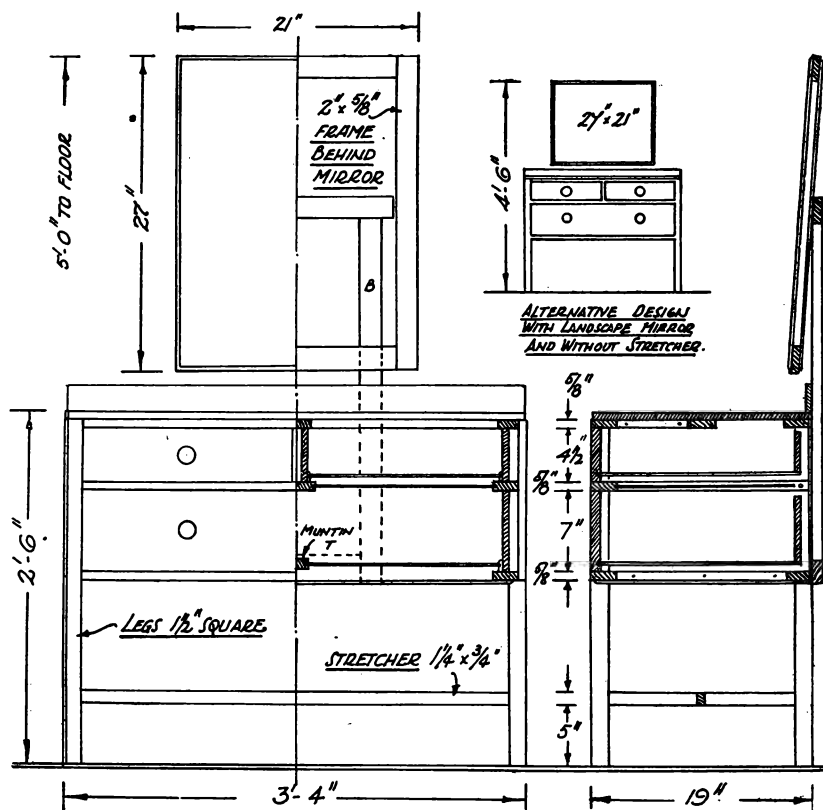

FIG. 2. FRONT ELEVATION, END SECTION, AND ALTERNATIVE MIRROR ARRANGEMENT.
Solid bottoms $\frac{1}{8}$ in. thick will need fielding to enter the grooved slips and front. The bottoms are slotted and screwed to the drawer backs at the rear. Drawer guides about 8 ins. long at each side are required. The long bottom drawer needs a centre muntin (T), see half-sectional front view, Fig. 2. Kickers (Q and R) are finally added. Add the top by screwing up through the top rails. The edge is set in a bare $\frac{1}{8}$ in front and ends.